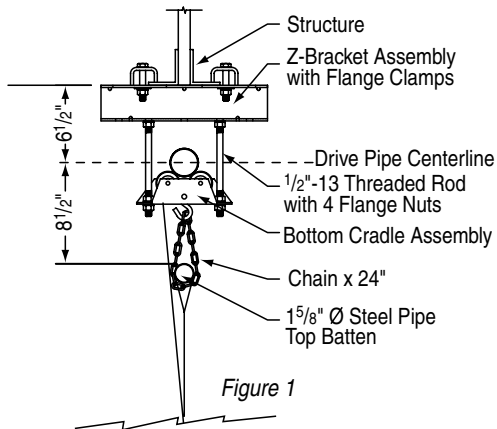

Figure 1
- ① Verify overall height and width with shop drawing to determine possible discrepancies.
- ② Attach winch support angles to winch plate and install winch per location shown on shop drawing.
- ③ Install drive pipe support assembly angle per location shown on shop drawing.
- ④ Attach drive pipe support assembly to angle with threaded rod. Adjust assembly vertically to proper height (See Fig. 1).
- ② Adjust spacing between cable guide sleeves to obtain level lift of curtain.
- ③ There are two basic vertical adjustments to this divider. One is the threaded rods attaching the drive pipe support assemblies to the drive pipe support angles. The other is the chain from the drive pipe support assembly to the top of the curtain (see Fig. 1).